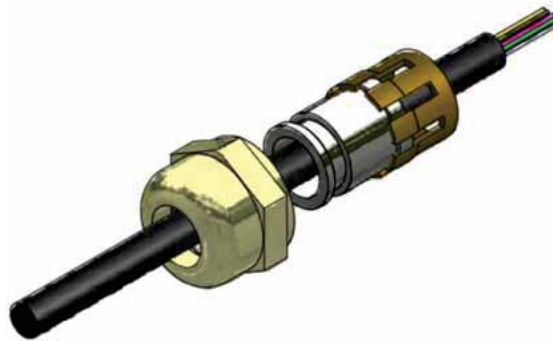

Figure 4.9. RJ45 Connector Components and Cable
1. Slide the connector parts on to the end of the cable as shown in Figure 4.9, “RJ45 Connector Components and Cable”.